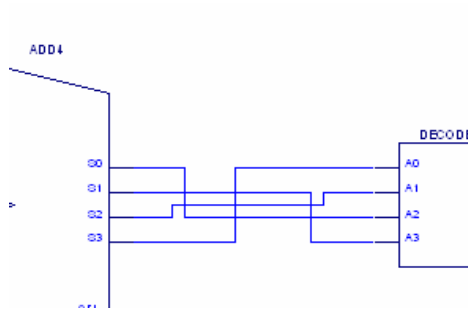
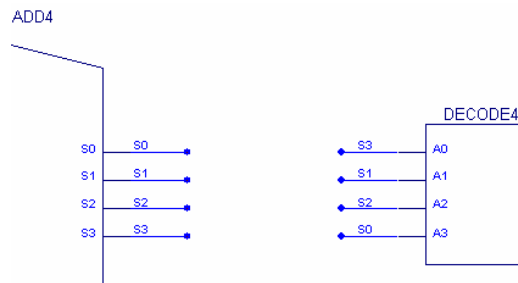

Figure 1
Figure 2
- You do not have to draw a wire to connect two symbol pins. You can just give the same name to the nets connected to these pins. Figures 1 and 2 are equivalent, but Figure 2 is easier to understand and debug.